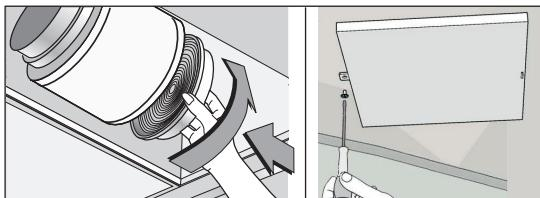

Fig.7
- ACTIVATED CARBON FILTERS (Only filtering types) (Fig. 7):